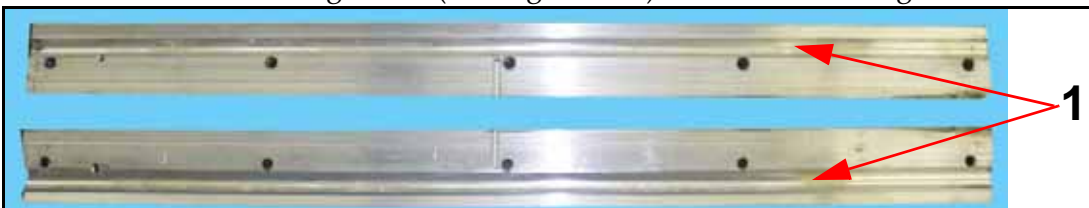

Figure 7-35. Seal Bar Cleaning
- 9 Clean grooves (1 in Figure 7-35) in seal bar with rag and steel wool.